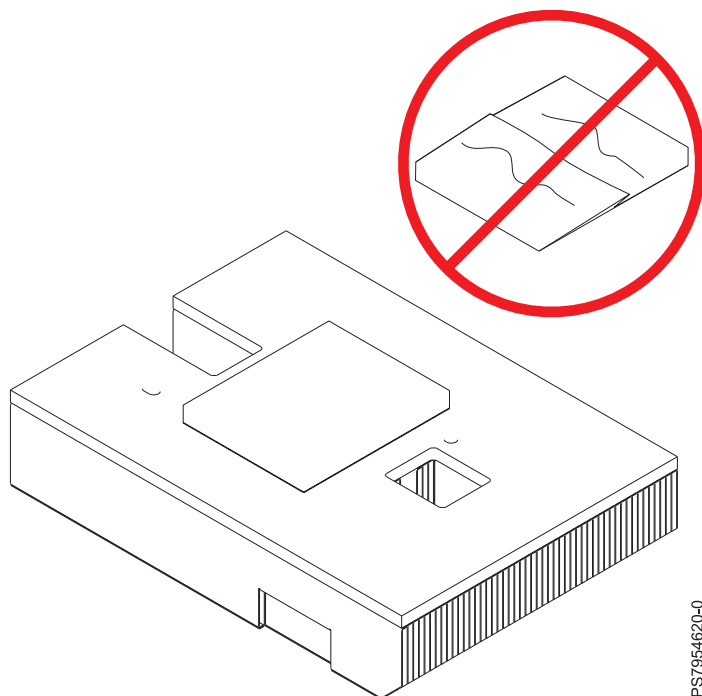

Figure 43. Inspecting the thermal interface material
8. Inspect the thermal interface material (TIM) for visible signs of damage, as shown in Figure 43.